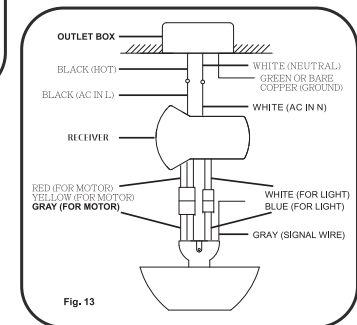

Fig. 13
Step 3. Motor to receiver wires electrical connections:Connect the 4P-4P for motor/ 2P-2P for light/ Gray-gray for signal from motor to receiver . (Fig.13)